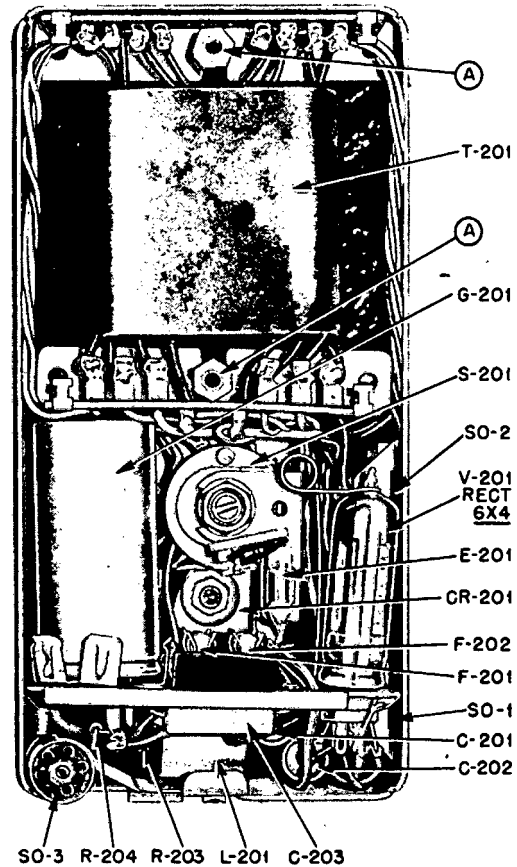

Figure 21. Power Supply RP-6-XX parts location
#### 3. HOW TO REPLACE POWER TRANSFORMER (See Figure 21)
- b. Remove hex spacer nuts (A, Figure 21).